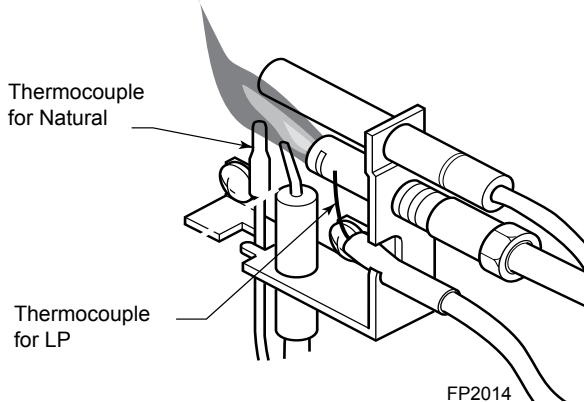

Figure 26. Correct Appearance of Pilot Flame
8. Place log #7 between the second and third right tong on the grate as shown in *Figure 26*.